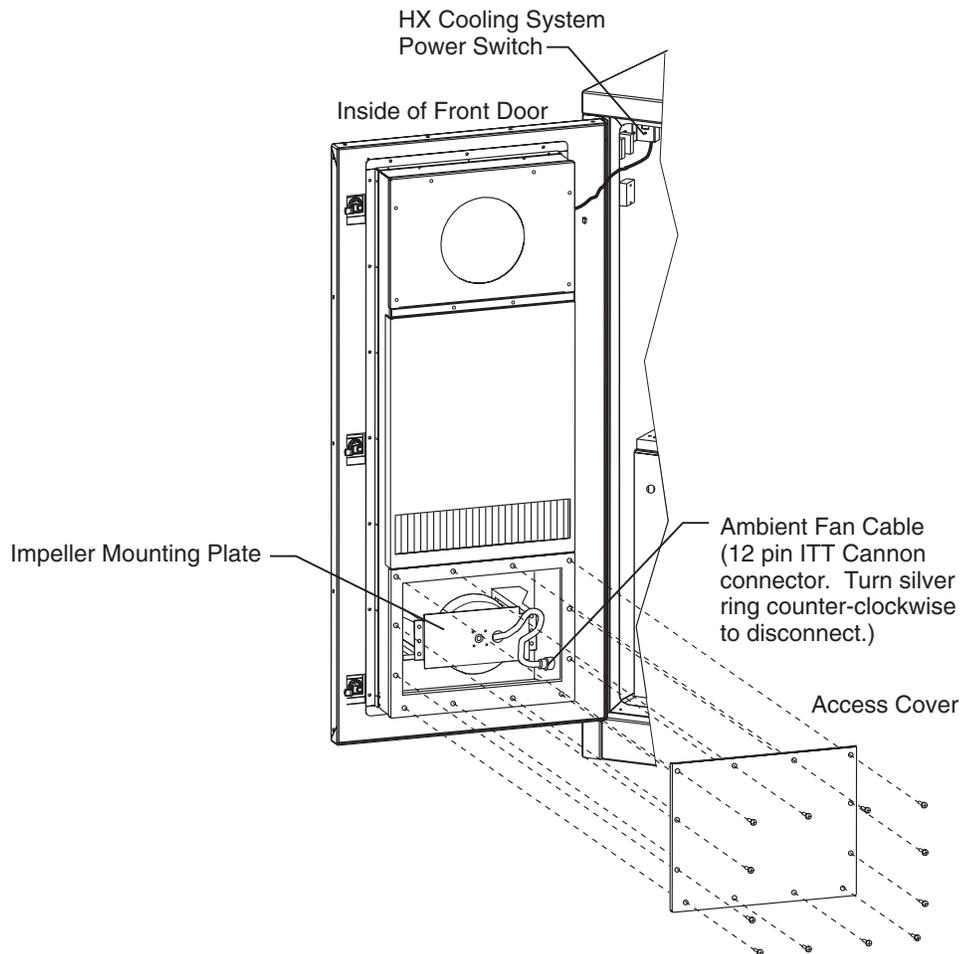

Figure 8-4: Removing Ambient Fan Access Cover
1. Turn off power to the heat exchanger by turning off the HX Cooling System power switch. See Figure 8-4.